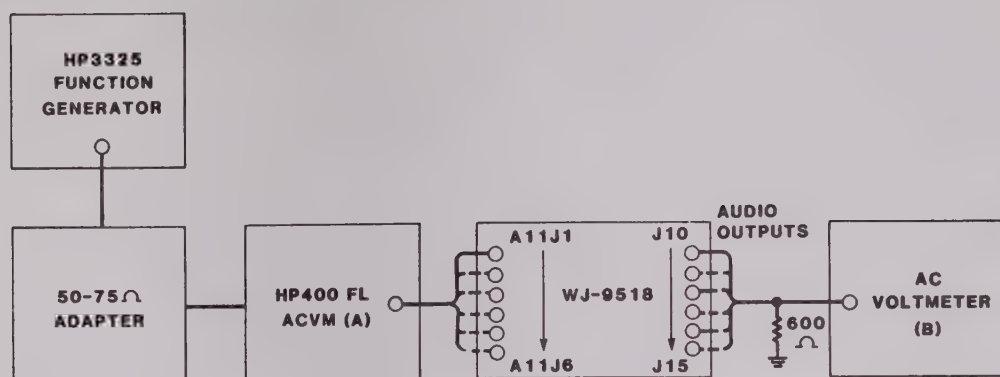

Figure 4-15. Frequency Converter Alignment, Equipment Connections
1. Connect the test equipment as illustrated in **Figure 4-15** by the solid lines.